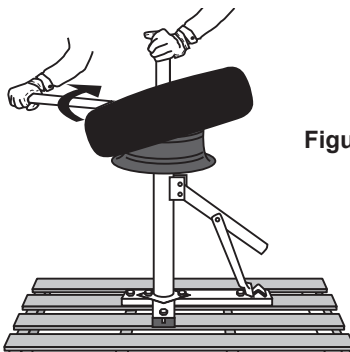

Figure 13
**NOTE:** You may need to hold onto Post Cap with your free hand for added leverage. See Figure 13, above.